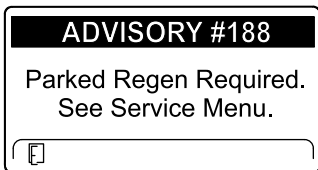

Figure 45
- Parked regeneration required ADVISORY #188 (Figure 45)